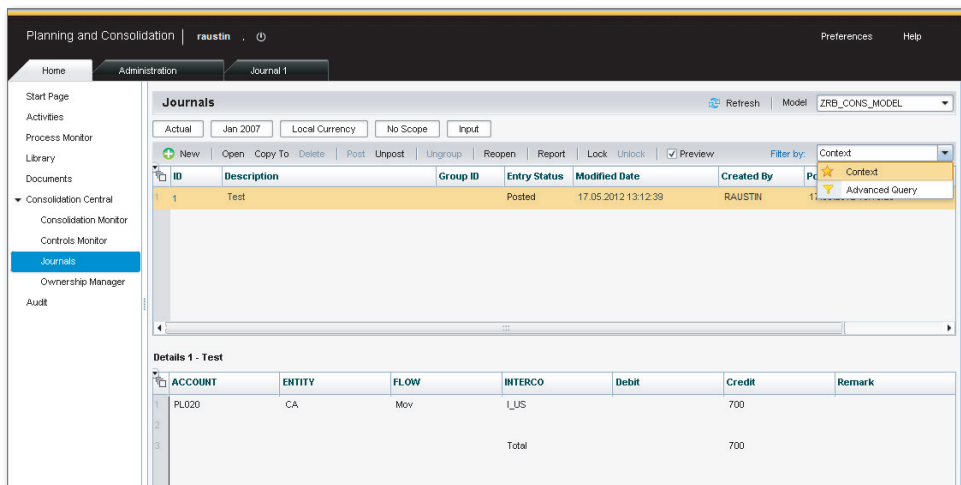

Figure 9.50 Journal Landing Page
1. Journal entries can be viewed and managed from the JOURNALS landing page. Access the JOURNALS landing page by selecting the JOURNALS view under the CONSOLIDATION CENTRAL domain in the HOME workspace of the Web Client (Figure 9.50).